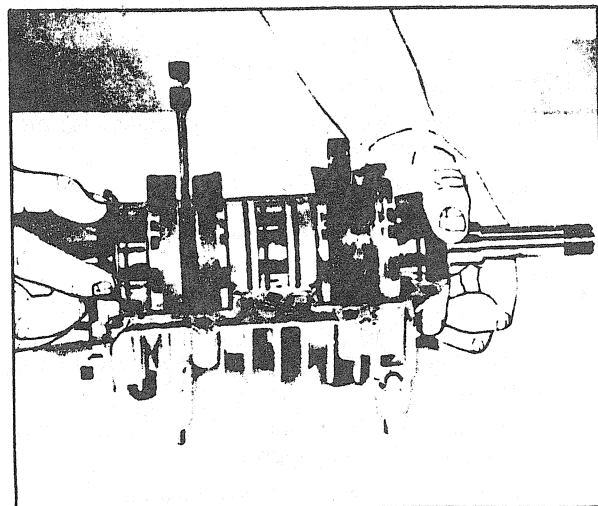

FIGURE 29
**NOTE:** Make sure the retaining washers and "O" rings are correctly seated into their respective grooves in crankcase (fig. 29).